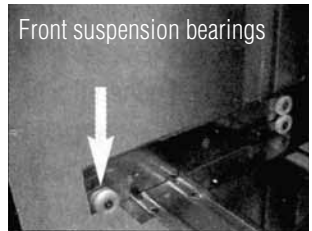

Fig. 7
1. Place rear of drawer side rails onto the front suspension bearings. (Fig. 7)